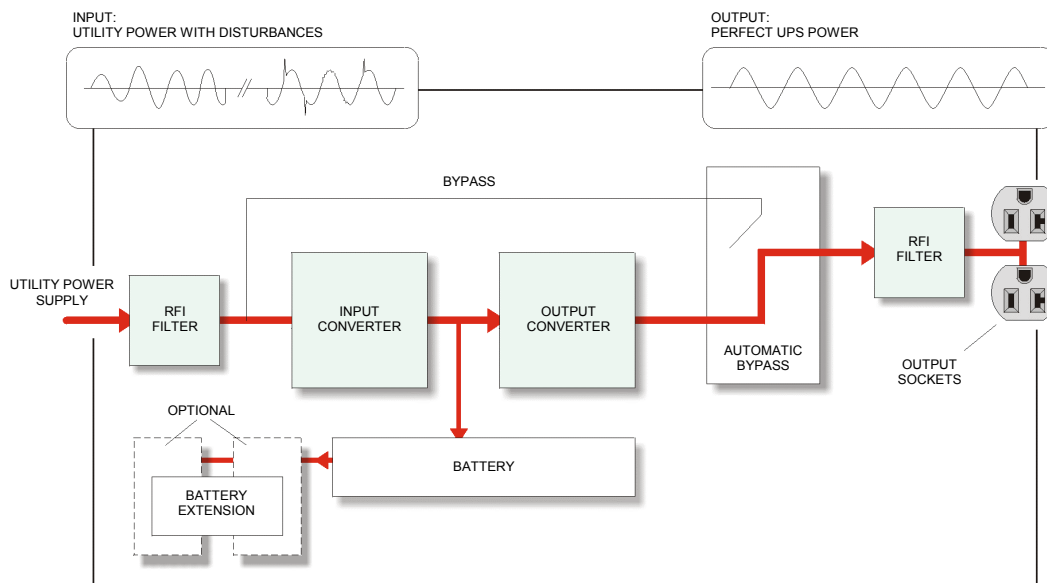

Figure 1 Block diagram of the **Digital Energy™ GT Series 1000-3000 UPS, mains present**
The **Digital Energy™ GT Series** UPS stores electric energy in batteries housed in the unit. This allows the UPS to supply output power even when the incoming mains power is cut off completely. Energy is stored as Direct Current (DC), while input and output energy are Alternating Current (AC) in sine wave form. Therefore the UPS contains an input converter (AC to DC) and an output converter (DC to AC) (See fig.1).